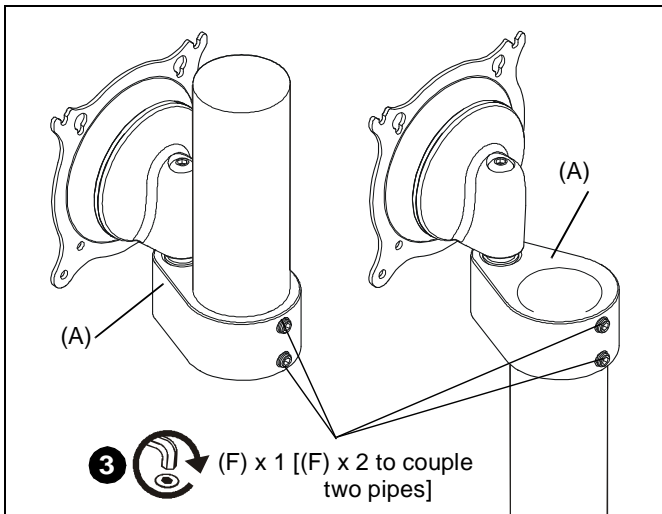

Figure 2
3. When FHS assembly (A) is properly positioned secure to 1-1/2" NPT pipe by installing and tightening 5/16-18 x 3/8" set screw (F) using 3/16" hex wrench (H). (See Figure 2)